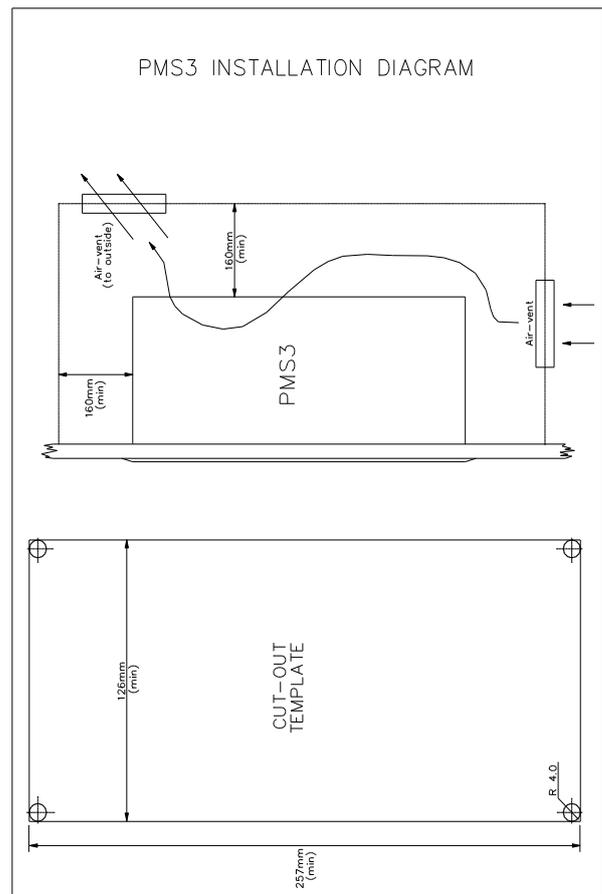

Fig 1 – Venting & Cut-out Details
The PMS3 is designed to be recessed into a wall, preferably at eye level and in a readily accessible position. Particular attention should be made to ventilation, ensuring that some form of air flow is available at the rear of the unit (refer to Installation Diagram, Fig 1)
- 1 First mark the required cut-out onto the surface to be removed using the template dimensions given in the Installation Diagram (See Fig 1)